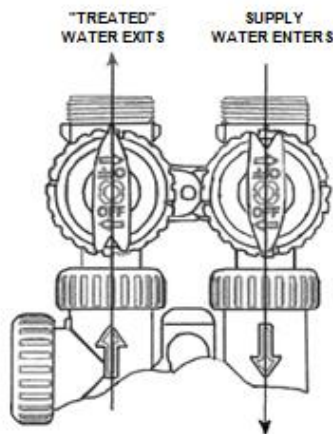

Figure 1
1. **Normal Operation Position:** The inlet and outlet handles point in the direction of flow indicated by the engraved arrows on the control valve. Water flows through the control valve for normal operation of a water softener or filter. During the regeneration cycle this system provides regeneration water to the unit, while also providing untreated water to the distribution system. **(Fig. 1)**